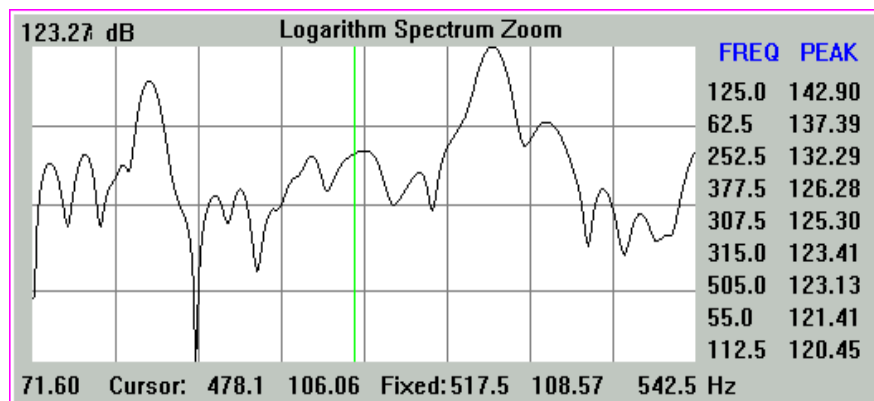

Figure-7 Spectrum zoom
- **FREQUENCY SPECTRUM ZOOM:** When doing “AMP-SPEC” or “POW-SPEC” or “LOG-SPEC”, it can zoom into spectrum. In the window of displaying analysis result, firstly move cursor to the frequency you wanted, then click right key to get the zoomed spectrum with the frequency as midst (showed as Figure-7). If click the left key again, it will be back.